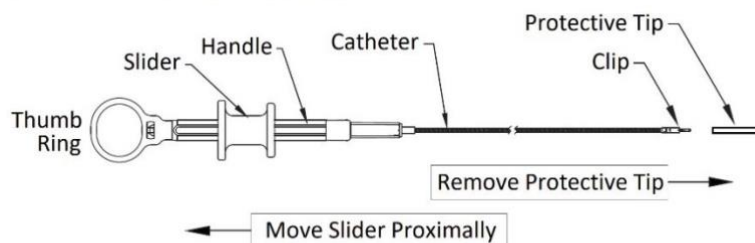

Figure 2
2. Confirm that the Clip is in the closed position by moving the Slider towards the Thumb Ring as shown in **Figure 2**. Continuous light pressure may be needed to keep the clip closed.